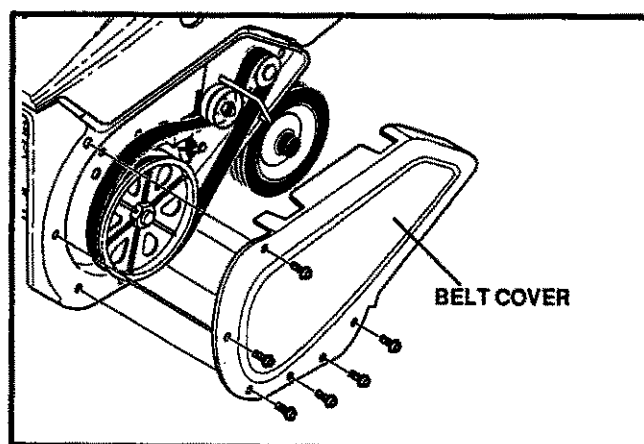

FIG. 3-SERV & ADJ
- Remove the belt cover (See FIG. 3-SERV & ADJ) by removing the 6 screws.